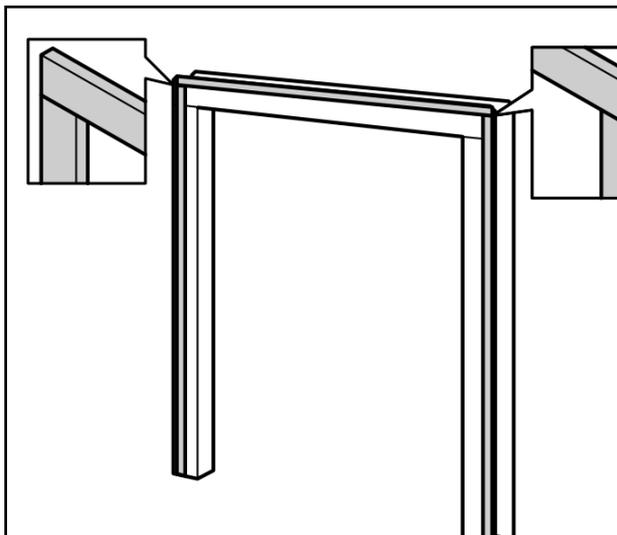

Figure 17. Fitting the foam seal
12. The long length of self adhesive foam seal supplied with the fire will need to be fitted to the outer rear edges of the side and top pieces of the spacer frame. Ensure that there is no gap between the foam seals where they meet at the top flange (See figure 17).